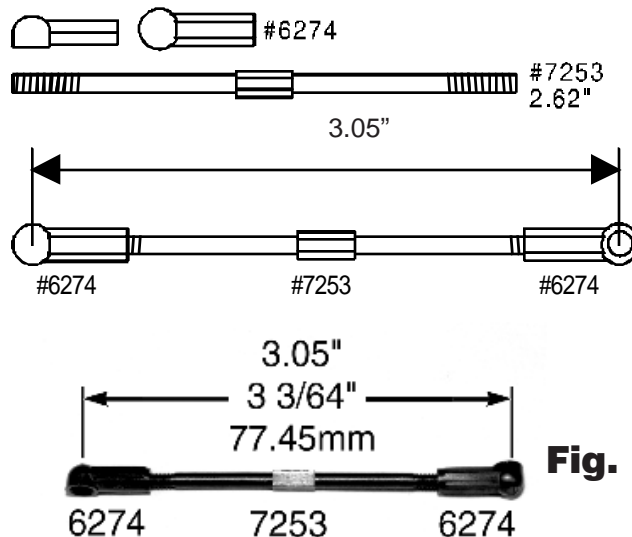

Fig. 107
□ **Fig. 107** Remove four #6274 ball cups from bag #6-14 and two #7253 truck turnbuckles from bag #7-8. Thread the ball cups onto the turnbuckles evenly and adjust the length to 3 3/64" (3.05" or 77.45mm) center to center of the ball cup sockets. Then compare them to the scale drawing shown at the bottom of the photo. On these two turnbuckles the ball cups will face opposite directions. Just as on the other turnbuckles, one end of the turnbuckle has right hand threads and the other end has left hand threads. Remember the photos are not to scale.